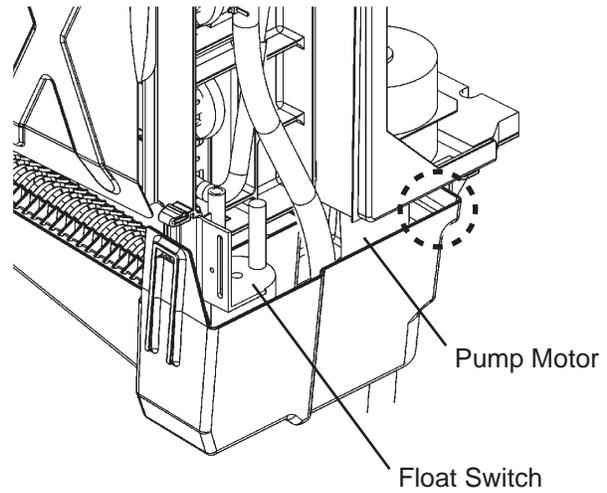

Fig. 17
- 4) When the snaps are unhooked from the square holes, the rear part of the water tank (dotted circle in Fig. 17) is also unhooked. Hold the water tank with both hands.